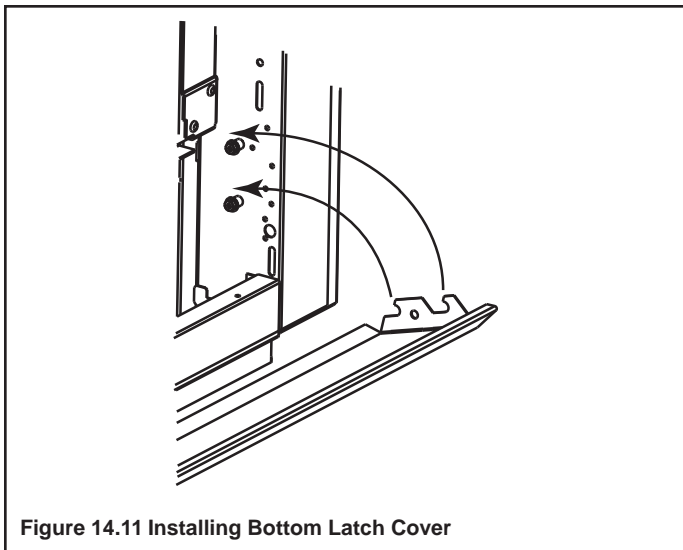

Figure 14.11 Installing Bottom Latch Cover
- Insert bottom latch cover over existing shoulder screws. See Figure 14.11.